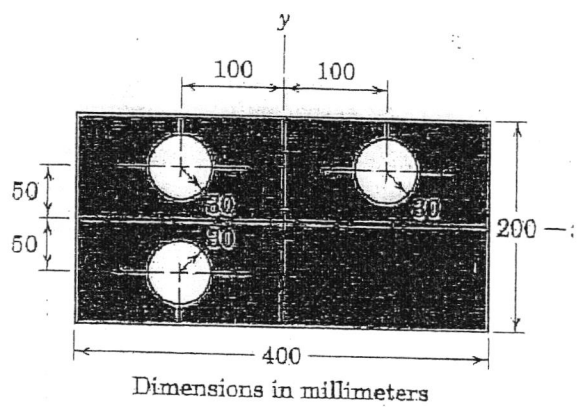

Fig. Q.5
5. Determine I_x , I_y and I_{xy} for the rectangular plate with three equal circular holes as shown in Fig. Q.5. 12